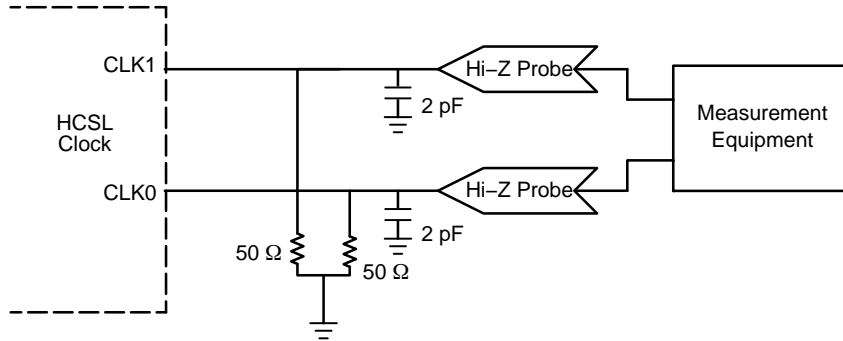

Figure 8. HC SL Parameter Measurement
6. Measurement taken with outputs terminated with $R_S = 0 \Omega$, $R_L = 50 \Omega$, with test load capacitance of 2 pF. See Figure 8. Guaranteed by characterization.